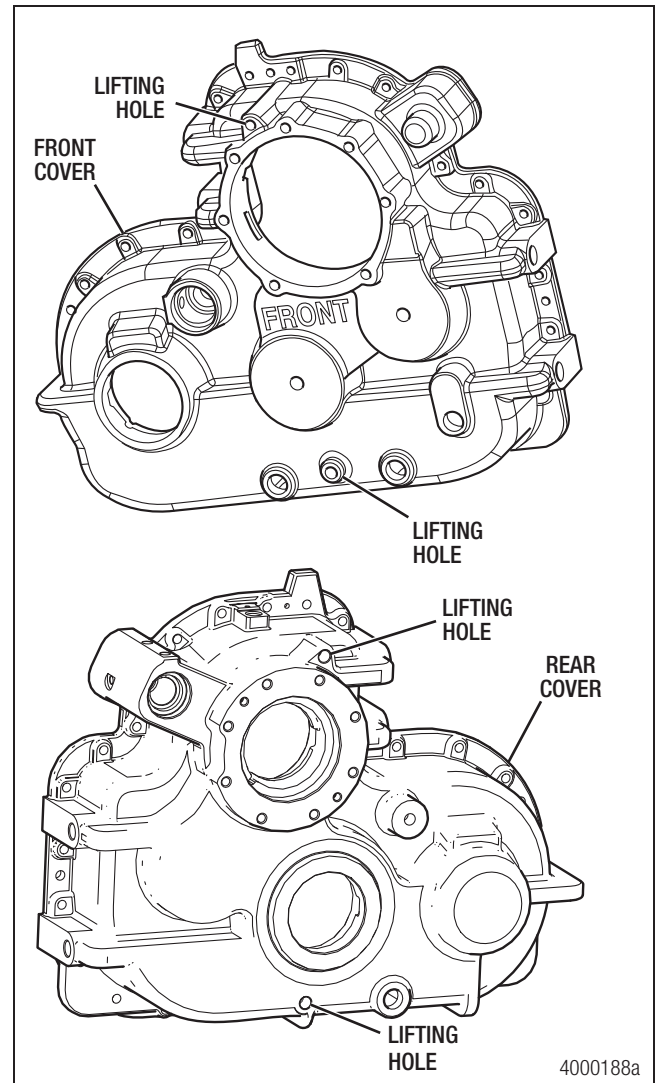

Figure 4.9
15. Install eyebolts in the lifting holes located in either half of the transfer case housing. Lifting holes are located at the top and bottom of each half of the transfer case near the center. Figure 4.9.